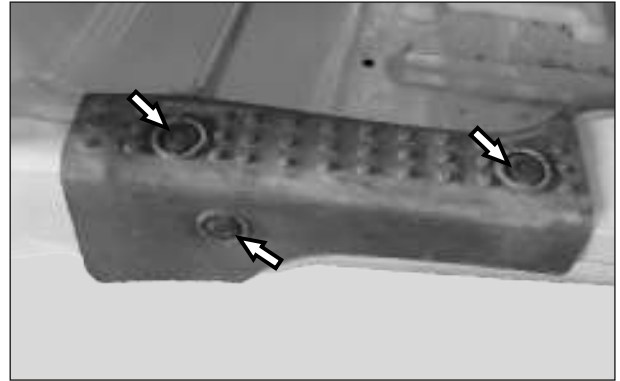

Fig. 5.90
- Unlock button assembly floor mat LH and RH. (Fig. 5.90)